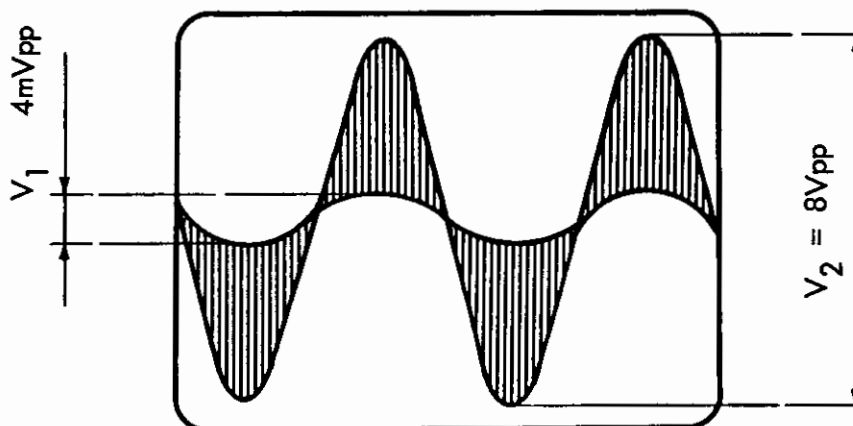

Fig. D5. Check of Separation.
6. Check that  $V_1$  (See Fig. D5.) is less than 4 mVpp.